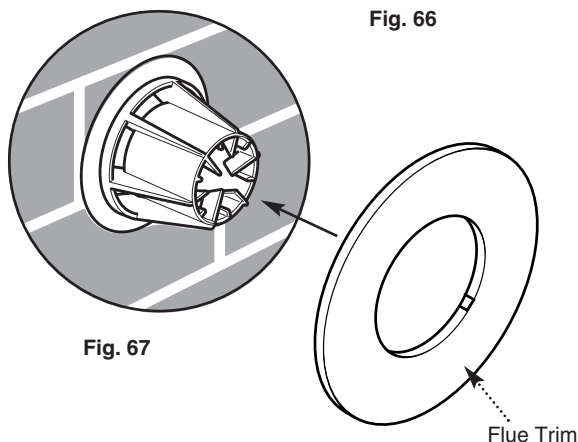

Fig. 67
10. The flue trim provided may be fitted if required, to neaten up the make-up around the terminal (Fig. 67).